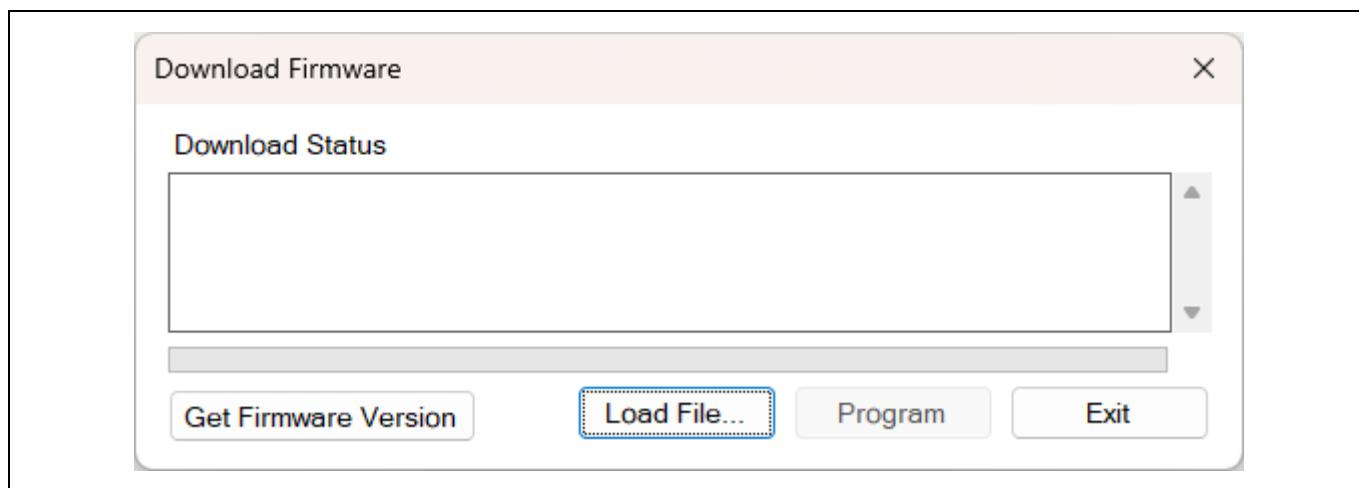
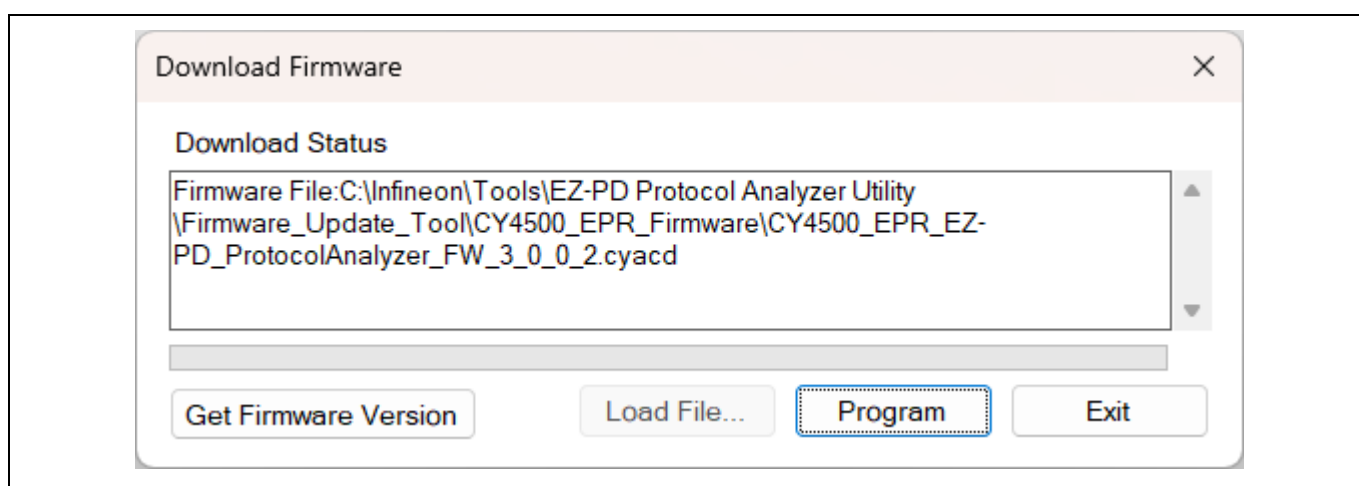

Figure 16 “Download Firmware” window
Figure 17 Selecting the CY4500-EPR firmware file
- Upon executing step 4, the **Download Firmware** window opens as shown in Figure 16. The device enters the bootloader mode by default.
- Click **Load File...** as shown in Figure 16 and select the CY4500-EPR firmware file in .cyacd format as shown in Figure 17. Click **Open**. The binary file provided with the analyzer is available at the following location: